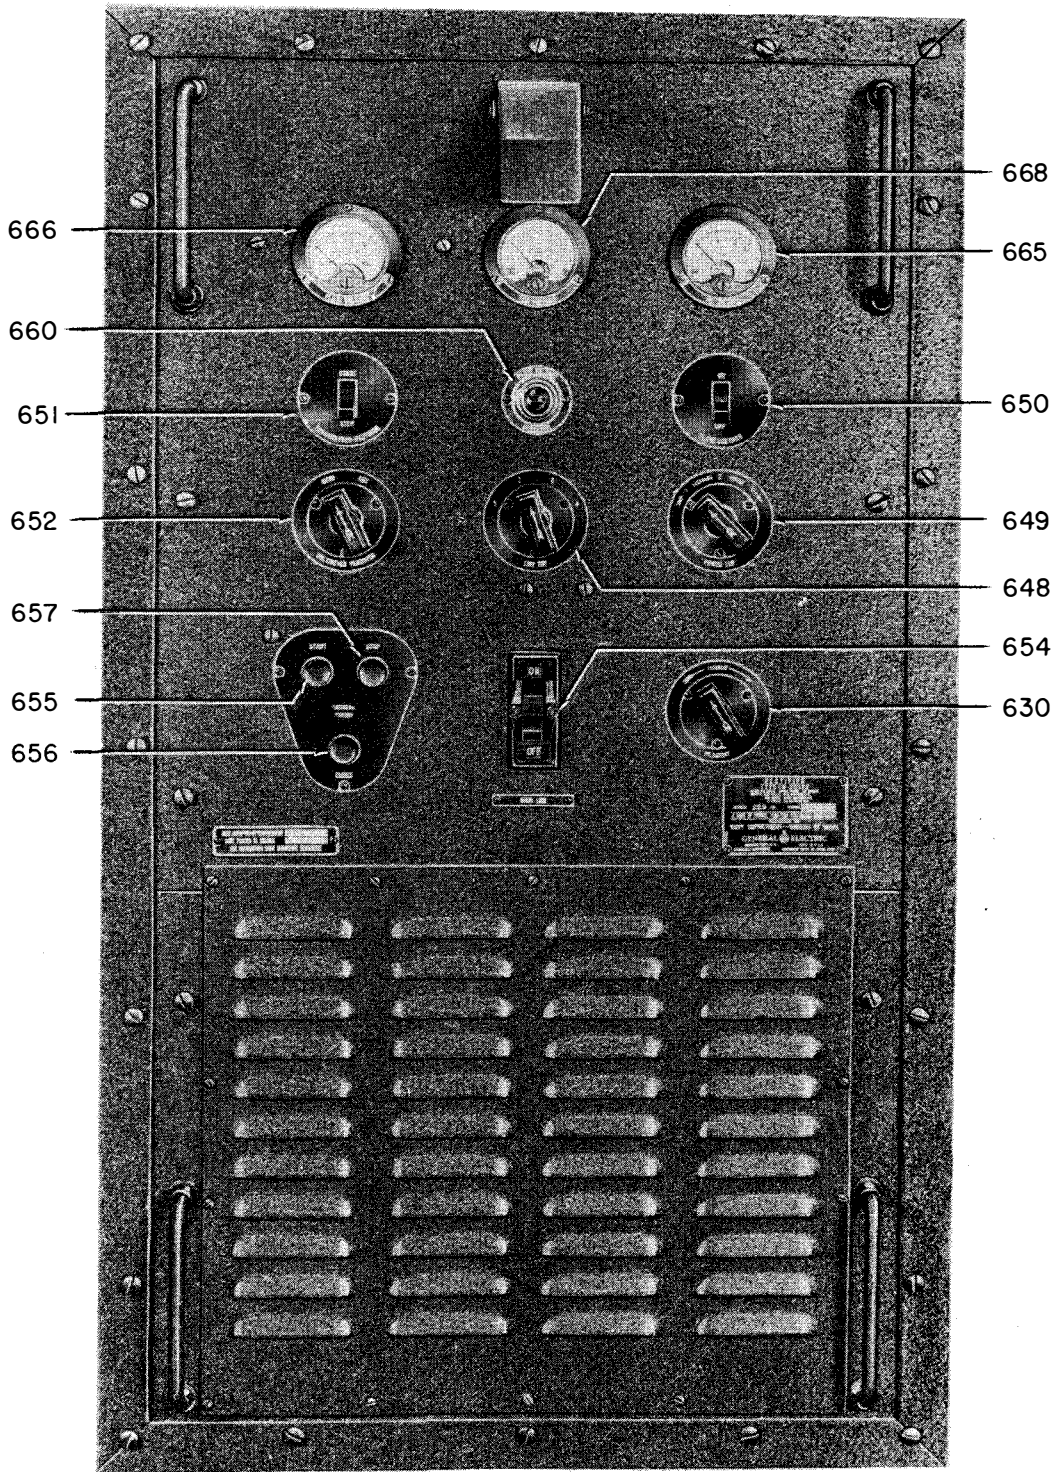

Figure 7-2. Rectifier Navy Type CG-2012, Front View
1b. Line circuit breaker in line switch (654, figure 7-2) open due to overload or short circuit.	1b. Throw switch handle from the middle position to the "OFF" position and then to the "ON" position.
1c. A-c line to rectifier not connected. In this case line voltmeter (668, figure 7-2) will show no reading.	1c. Connect a-c line to rectifier. Inspect connections.
3b. Filament rheostat (630, figure 7-2) open.	3b. Place rheostat in correct position. Repair or replace defective rheostat.
6e. Interlock switch (648) or (649) open. (See figures 7-2 and 7-6).	6e. Repair or replace defective switch.
6f. Plate switch (650, figure 7-2) open.	6f. Place switch in "ON" position. Tighten switch connections. Replace switch, if necessary.
7e. Interlock switch (648) or (649) open. (See figures 7-2 and 7-6).	7e. Repair or replace defective switch.
7f. Plate switch (650, figure 7-2) open.	7f. Place switch in "ON" position. Tighten connections. Replace switch, if necessary.
8b. Line tap switch (648, figure 7-2) not in correct position for existing line voltage.	8b. Reset line tap switch to correct position.
9b. Line tap switch (648, figure 7-2) not in correct position for existing line voltage.	9b. Reset line tap switch to correct position.
9c. "POWER-TAP" switch (649, figure 7-2) not set on tap "3".	9c. Set "POWER-TAP" switch on tap "3".